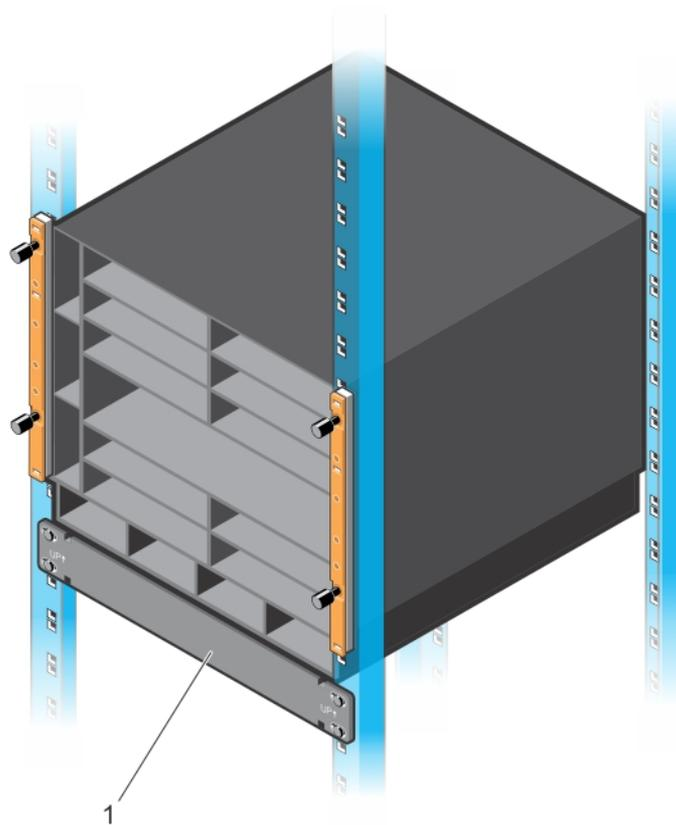

Figure 9. Chassis Installed in a 4-Post Rack
- 6 Lift and slide the chassis so that the holes on the chassis flanges touch the holes in the rack posts with cage nuts. Use the rack bar (item 1 in Figure 9) as a guide.